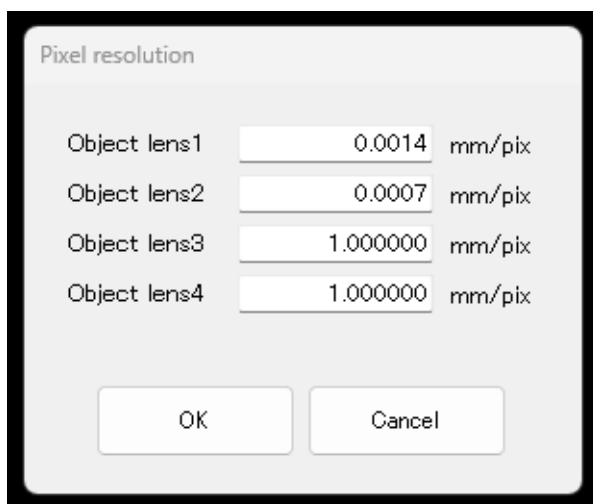

Figure 30 Put the optimum value of length(mm) / pixel
- 10) Open the **setting-tub** and click pixel resolution. An image as shown in Figure 30 appears. Then put the calculated value in the scale tab. The value is dependent on the magnification of the microscope lens. It is possible to register 4 values on the scale tub corresponding to 4 different lenses.